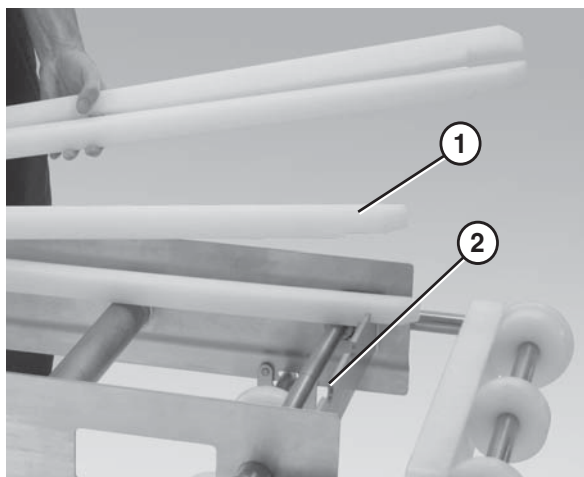

Figure 22
1. Position the wear strips (**Figure 22, item 1**) on the frame.
2. Make sure the wear strips are situated securely in the frame slots (**Figure 22, item 2**).